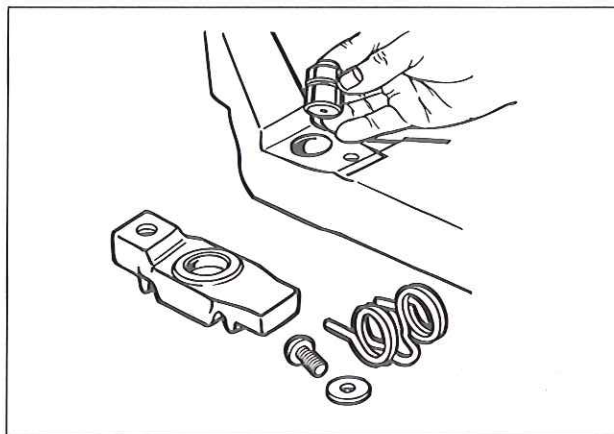

FIG. 46
2. Remove the bridge and the slave piston (see Fig. 46).